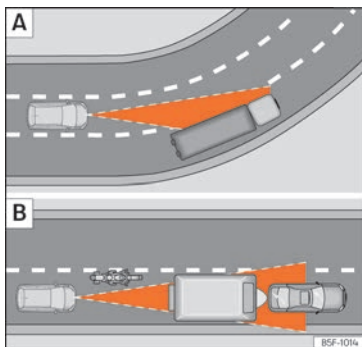

Fig. 239 [A] Vehicle on a bend. [B] Motorcyclist ahead, out of range of the radar sensor.
When entering or leaving some curves, the radar sensor may cease to sense the vehicle driving in front of it, or react to a vehicle in the adjacent lane » » » Fig. 239[A]. The vehicle may »
The radar sensor can only detect narrow vehicles or vehicles that circulate out of alignment when they enter its range »» Fig. 239 ②. In these cases, you should brake as necessary.